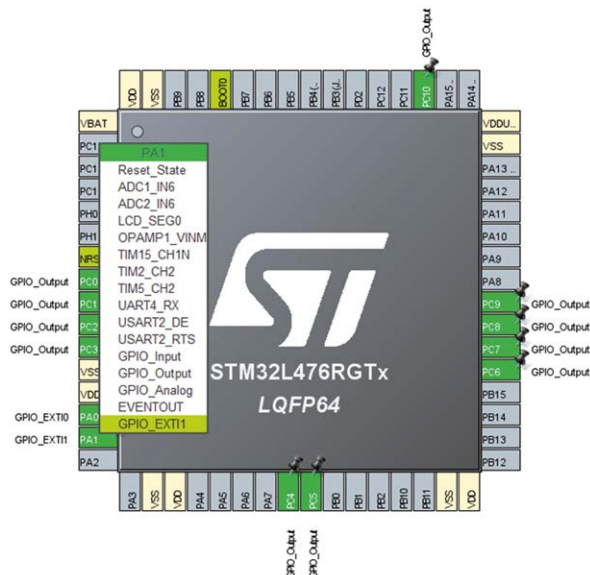

Figure 5.81: Configure the GPIO.
- Click on PA1 and select GPIO\_EXTI1 (see Figure 5.81).